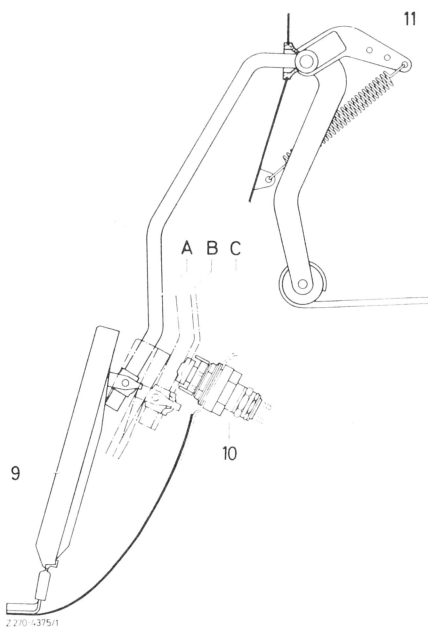

Fig. 2
The kickdown position of the magnetic valve is controlled by the accelerator pedal via the kickdown switch. Depress accelerator pedal (9) from inside vehicle against kickdown end position. (Fig. 2).